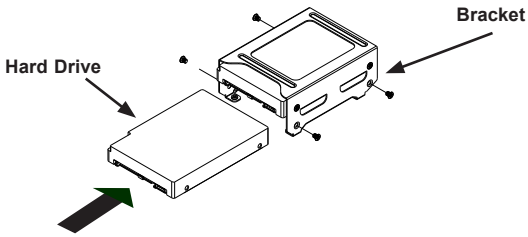

Figure 5-4. Installing 2.5" Hard Drives into the Bracket
1. Obtain the optional bracket and secure the drive(s) to the bracket. (Figure 5-4)
1. Obtain the drive bracket and secure the drive(s) to the bracket. (Figure5-4)